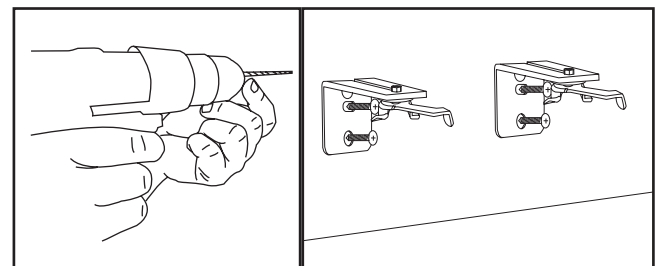

Figure 10 - Drill pilot hole and install brackets
C) **If drilling into something other than drywall or studs**, consider the substrate and pre-drill holes accordingly. Place the bracket against the wall, lining the holes in the bracket up with the holes in the wall. Screw in each screw until secure. Do not over torque. There should be no bracket movement after installation. Top of bracket should be level after installation. See Figure 10.